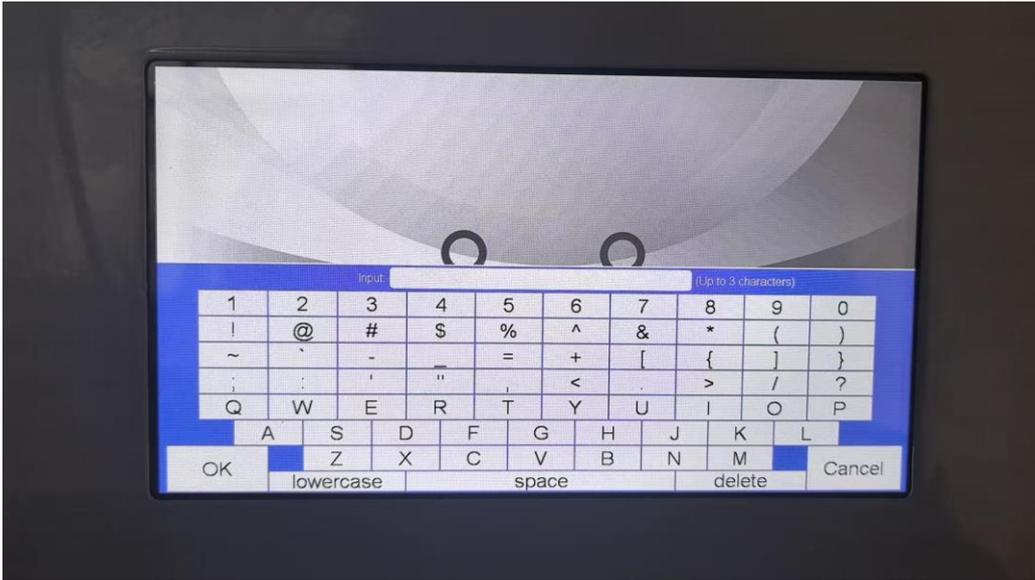

Figure 3 - 2
- In the user mode, the status of slave devices and the system time are displayed (as shown in Figure 3 - 3).